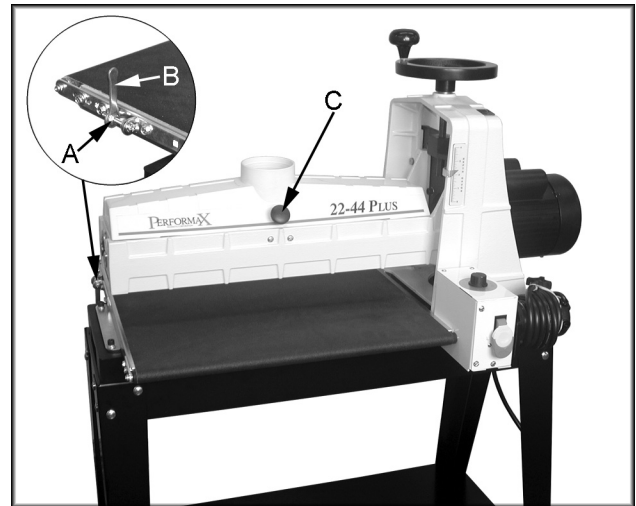

Fig. 3
Tighten the hex nut (Fig. 3, Item A) on the side the belt is drifting towards, and loosen the hex nut on the opposite side. Use the attached wrenches (Fig. 3, Item B) to adjust the hex nuts. **Note:** Adjustment should be made in 1/4 turns of the hex nut. Allow time for the belt to react to the adjustment. Do not over adjust.
To open the dust cover, push in on the knob (Fig. 3, Item C) and lift.
1. Push in and lift the knob (Fig. 3, Item C) to open the cover and remove the abrasive strip. If you are unsure how to do this, see the "Wrapping Abrasive Strips" section in this manual.